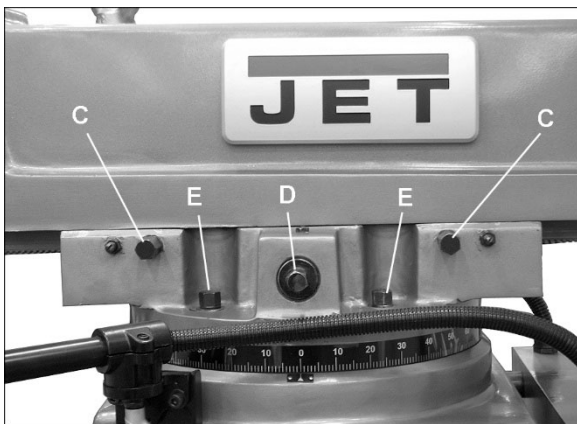

Figure 9-3
1. Loosen two ram lock bolts (C, Figure 9-3) that lock the ram to its ways.
2. Turn ram pinion (D) with a wrench to slide ram on its ways.
3. When desired position is reached, tighten ram lock bolts (C) securely.
1. Loosen four turret lock bolts (E, Figure 9-3) that clamp the ram to the top of the base. One-half (1/2) turn should be sufficient to allow turret to move.